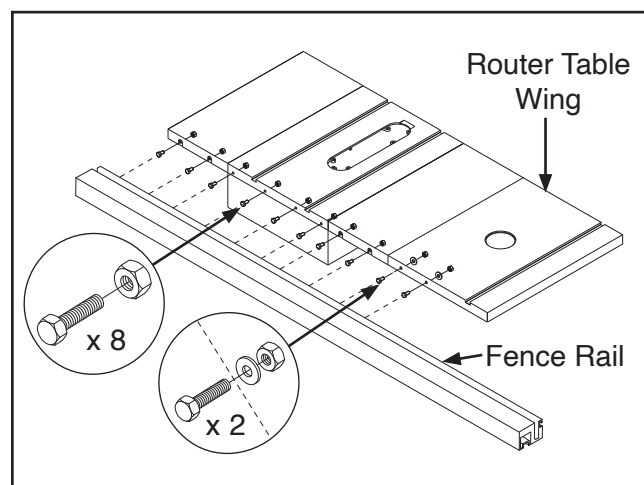

Figure 10. Locations of fence rail and fasteners.
9. Insert (2) M8-1.25 x 16 hex bolts (see **Figure 10**) into T-slot on right-hand side of front rail.
10. Align (8) pre-installed hex bolts in fence rail and (2) M8-1.25 x 16 hex bolts from **Step 9** with holes in extension wings, main table, and router table wing, then secure with (8) hex nuts removed in **Step 4**, (2) 8mm flat washers and (2) M8-1.25 hex nuts, see **Figure 10**. Hand-tighten for now.